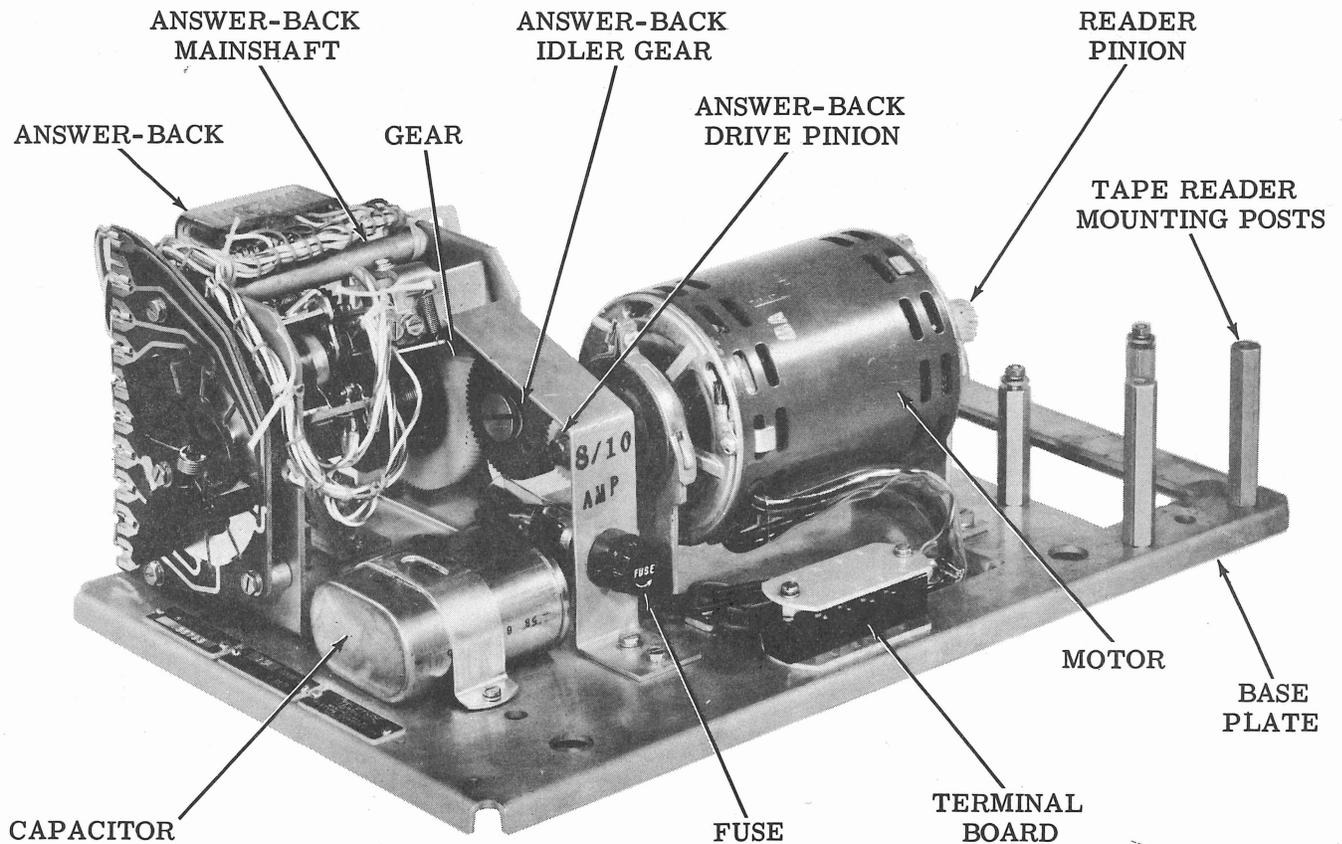

Figure 1 - 35 Tape Reader Base (Typical)
2.01 A pinion affixed to one end of the motor shaft drives the tape reader directly or through an intermediate gear arrangement (Figure 1). The answer-back or distributor units may be driven from a rear motor pinion or through the intermediate gear arrangement.